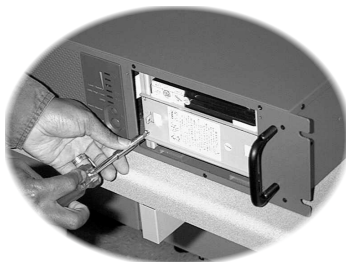

Figure 2
2. Again using a Phillips (cross head) screwdriver loosen the (4) screws holding the battery retaining plate as in Figure 2. Carefully remove the battery retaining plate by pulling it forward. Lay the battery retaining plate and screws aside for reassembly.